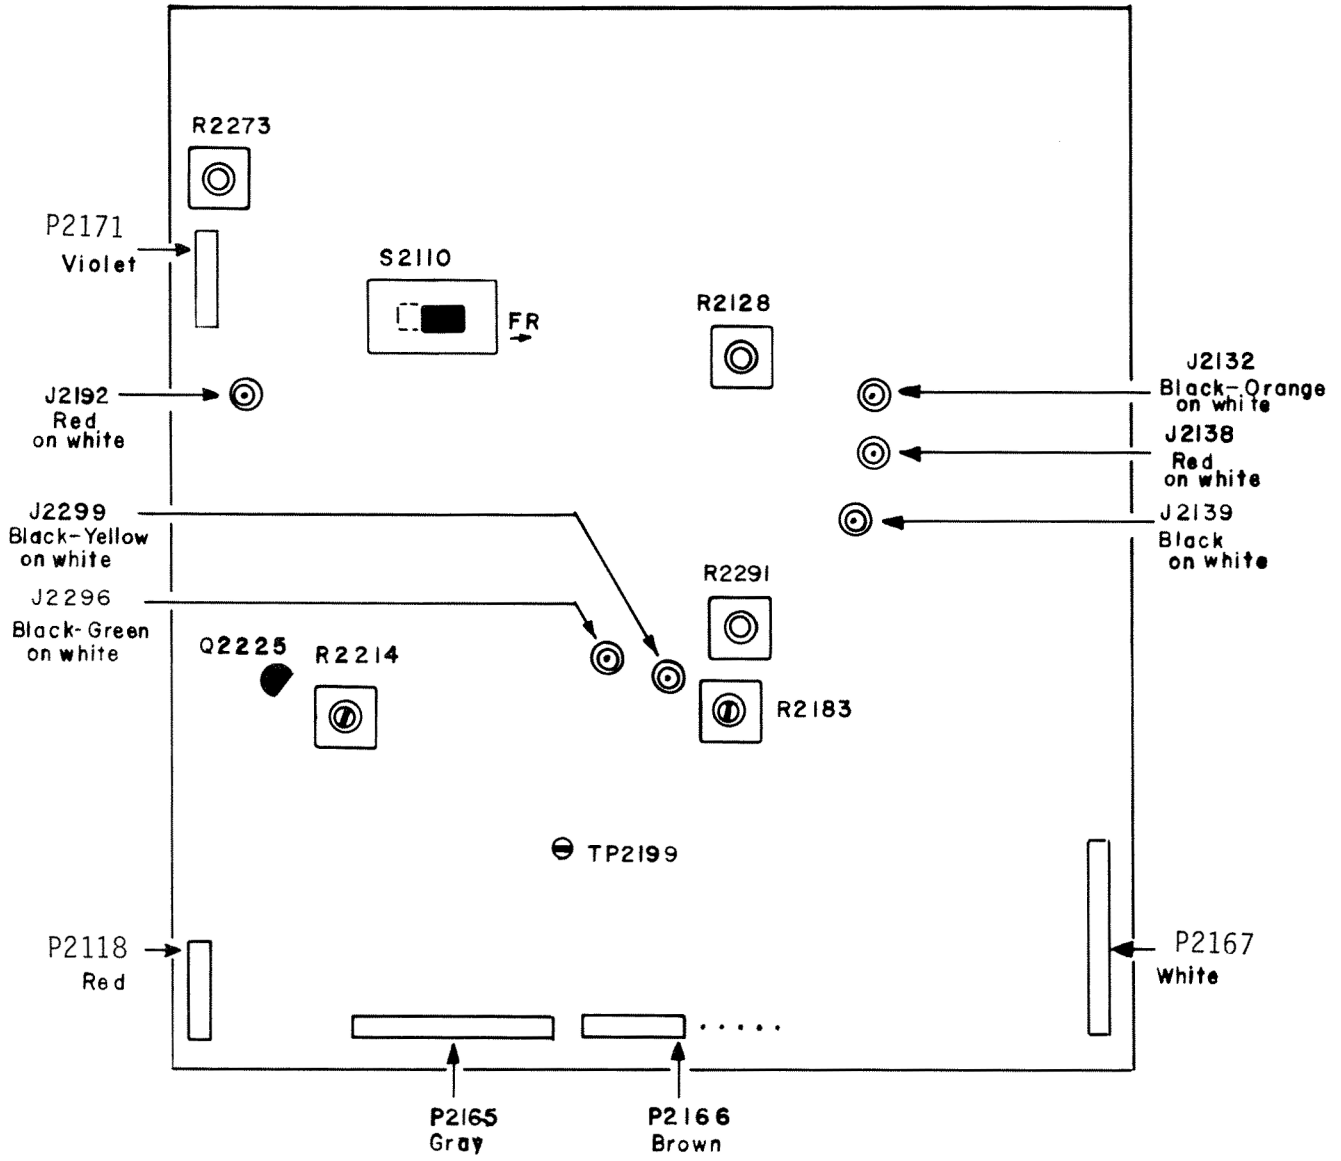

FIG. 1A
A. R7903 - REFER TO FIG. 1A & 1B.